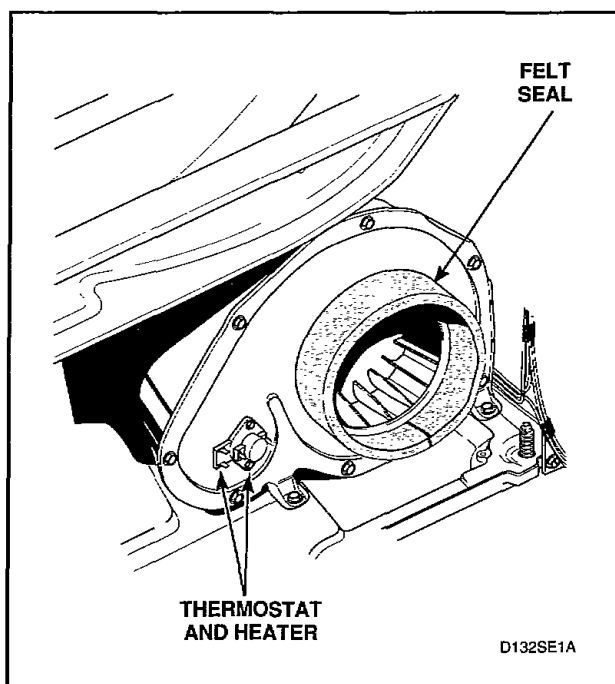
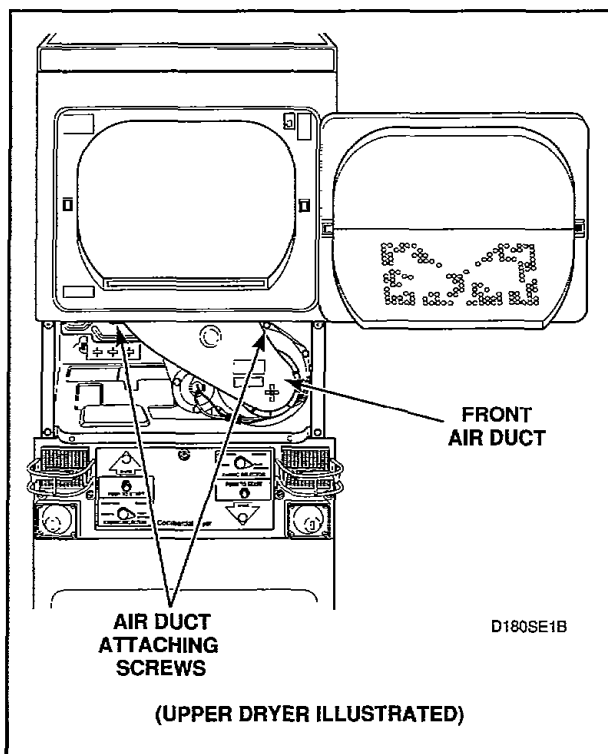

Figure 33
Figure 34
- Disconnect wires and remove thermostat attaching screws, *Figure 33*, and remove thermostat and heater.
- Remove two screws holding air duct to front bulkhead and remove air duct, *Figure 34*.
IMPORTANT: When reassembling, make sure felt seal on exhaust fan cover, *Figure 33*, makes air tight seal on flange of duct, *Figure 34*. If the seal is installed improperly, the airflow through the exhaust system will be restricted which can cause fire and dryer malfunction.
- d. Remove two screws holding air duct to front bulkhead and remove air duct, *Figure 34*.